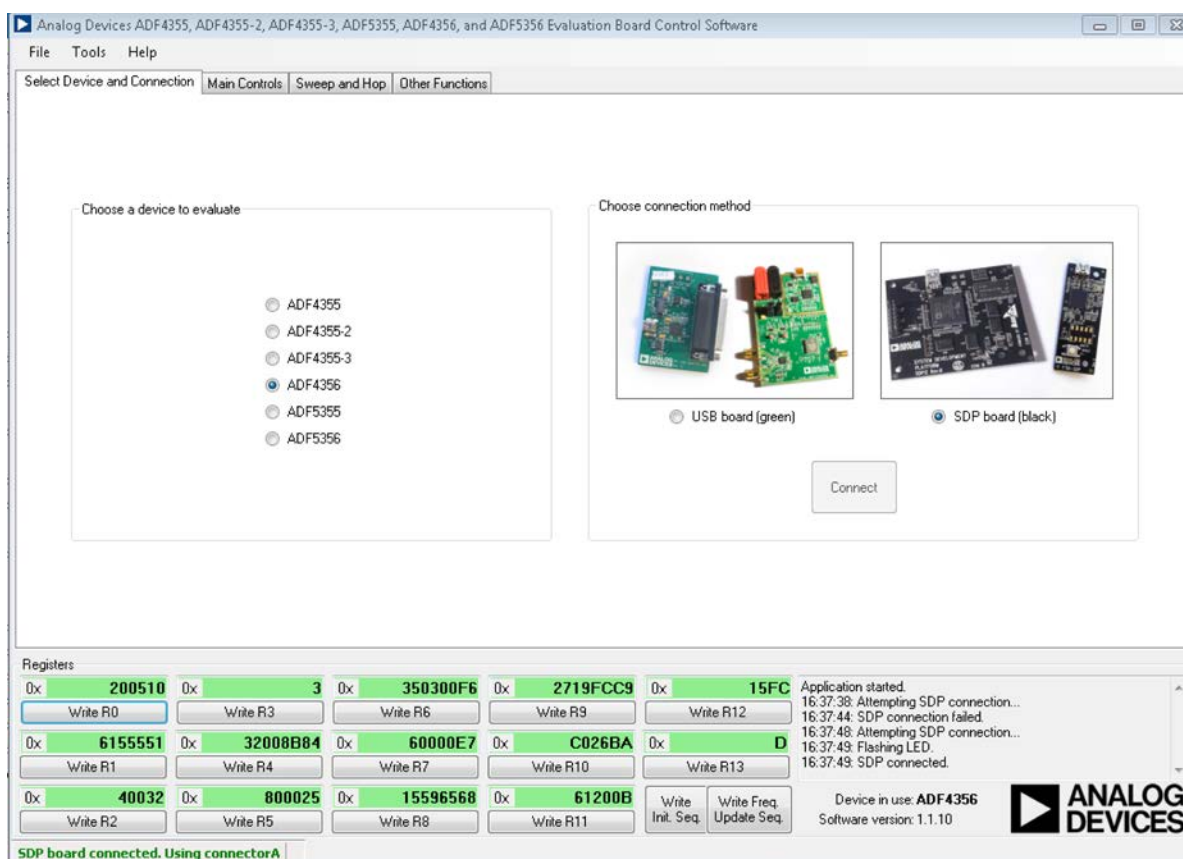

Figure 2. Software Front Panel Display—Select Device and Connection
2. On the **Select Device and Connection** tab, choose **ADF4356** and **SDP board (black)**, and then click **Connect** (see Figure 2).
8. Select ADF4356 and SDP board (black) in the **Select Device and Connection** tab of the software front panel display window (see Figure 2).